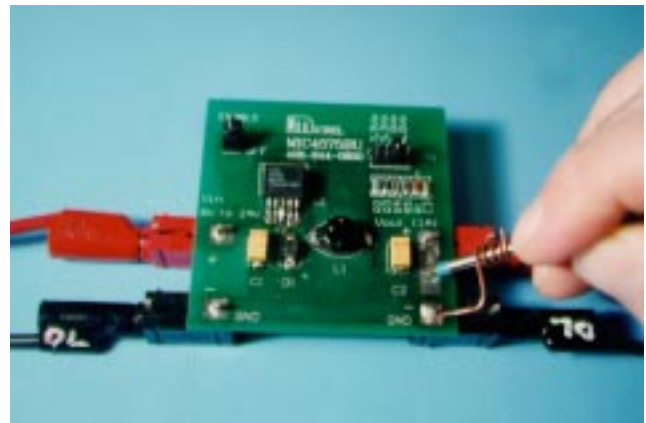

Figure 3b. Measuring with a Modified Probe
6. Modify scope probe as shown in Figure 3b.
Figure 3b demonstrates how the modified scope probe is used when actually making a measurement.